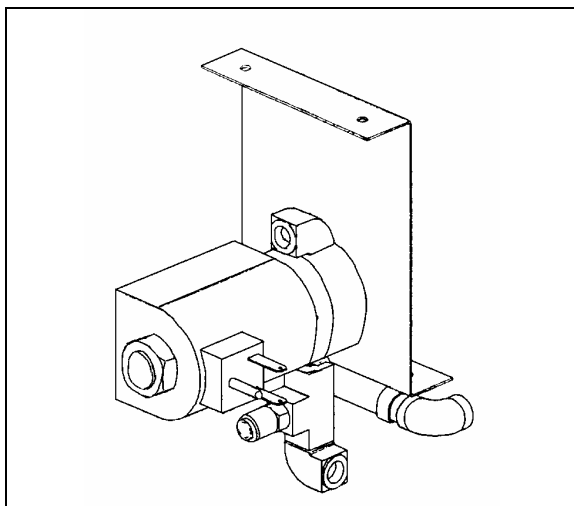

FIGURE 33: AIR HORN VALVE
The windshield wipers are controlled by two electric wiper motors that are accessible for maintenance after raising the appropriate access panel at the front of the coach (refer to figure 33).
Depress the upper windshield wiper switch located on the dashboard L.H. side to the first position for intermittent wiping, and to the second position for continuous wiping (item 1, fig. 33).
8. Connect the windshield washer tubing at the base of the wiper arm (Fig. 33 and 37);
5. Install the right wiper arm in its normal position (in the middle of the windshield (Fig. 33)). Refer to paragraph "9.2.1 Sweep Adjustment".